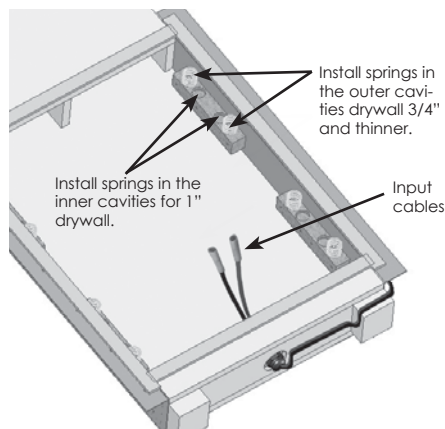

Figure 2
2. Stapled to the box is a bag containing eight springs. Install all eight springs into the cavities of the plywood blocks. The cavities can accommodate 1/2" and up to 1" drywall installations. **Figure 2.**